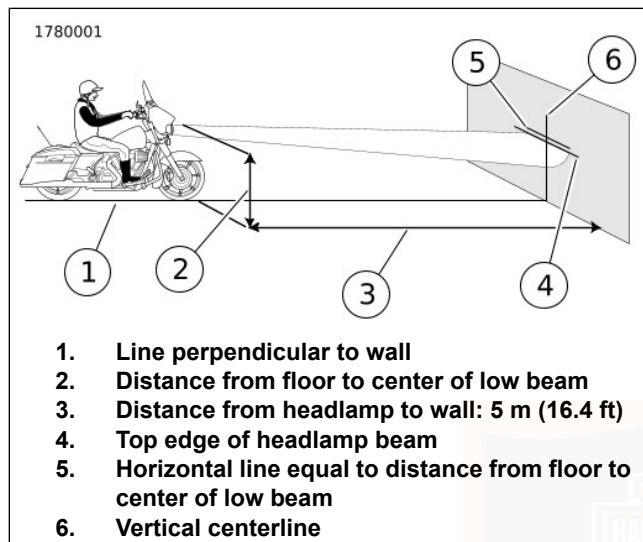

Figure 113. Headlamp Alignment
4. See Figure 113. Park the motorcycle on a line (1) perpendicular to the wall.
5. Position motorcycle so the front of the headlamp is 5 m (16.4 ft) (3) from wall.
6. Draw a vertical centerline (6) on the wall aligned with perpendicular line (1).
7. See Figure 113. With the motorcycle loaded, point the front wheel straight forward at wall. Measure the distance (2) from the floor to the optical center of the low beam bulb (dimple in lens).
8. Draw a horizontal line (5) through the vertical line on the wall at the same distance (2) from the floor as the low beam centerline. Draw another horizontal line (4) 2.5 cm (0.98 in) below horizontal line (5).